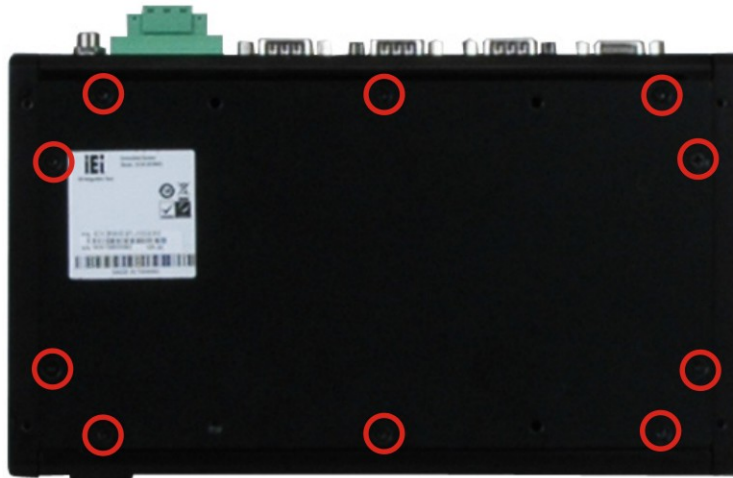

Figure 3-1: Bottom Surface Retention Screws
Step 1: Remove the bottom surface retention screws. The bottom surface is secured to the chassis with six retention screws (**Figure 3-1**). All 10 screws must be removed.